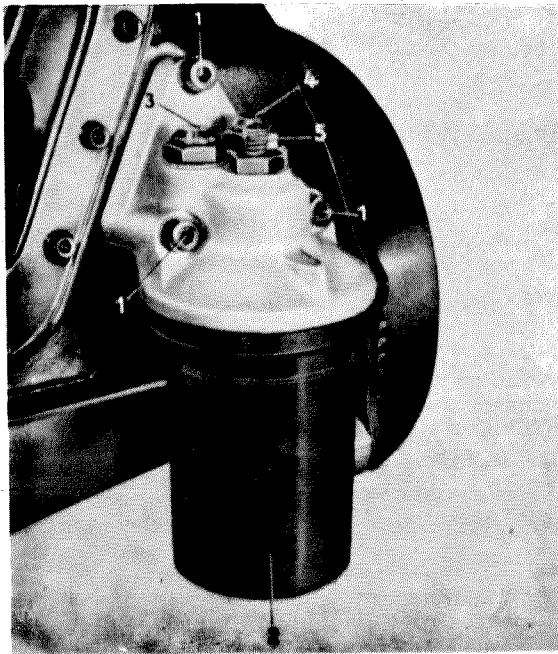

Fig. 01—4/35
2. Remove the fixing screws (1) on the upper part of the oil filter case and remove the filter (Fig. 01—4/35).